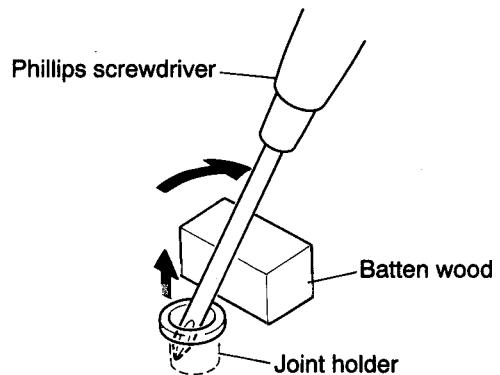

Fig. 5-60
■ **Removing the joint holders (See Fig. 5-60)**
Insert a Phillips screwdriver into each joint holder and remove it by levering. To avoid damaging the wooden cabinet, place a piece of batten wood as shown in Fig. 5-60.